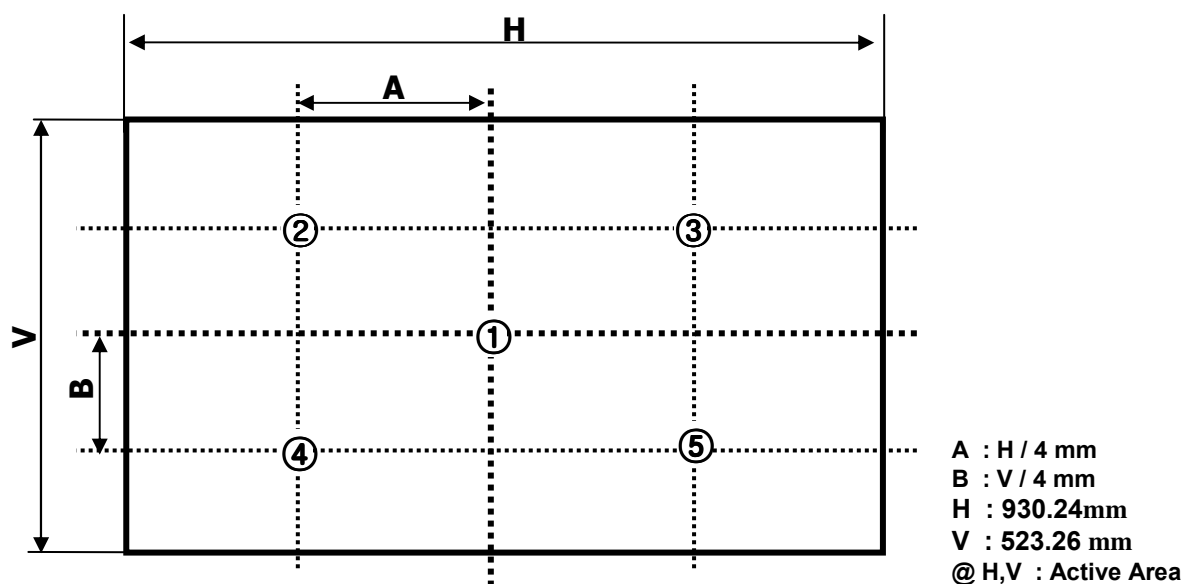

FIG. 2 Measure Point for Luminance
2. Surface Luminance(LWH) is the luminance value measured after the unit has been turned on for 30min at an approximate 50cm distance from the center 1-point of LCD surface as all pixels displaying white. See FIG. 2 for more information
For more information, see FIG 2.